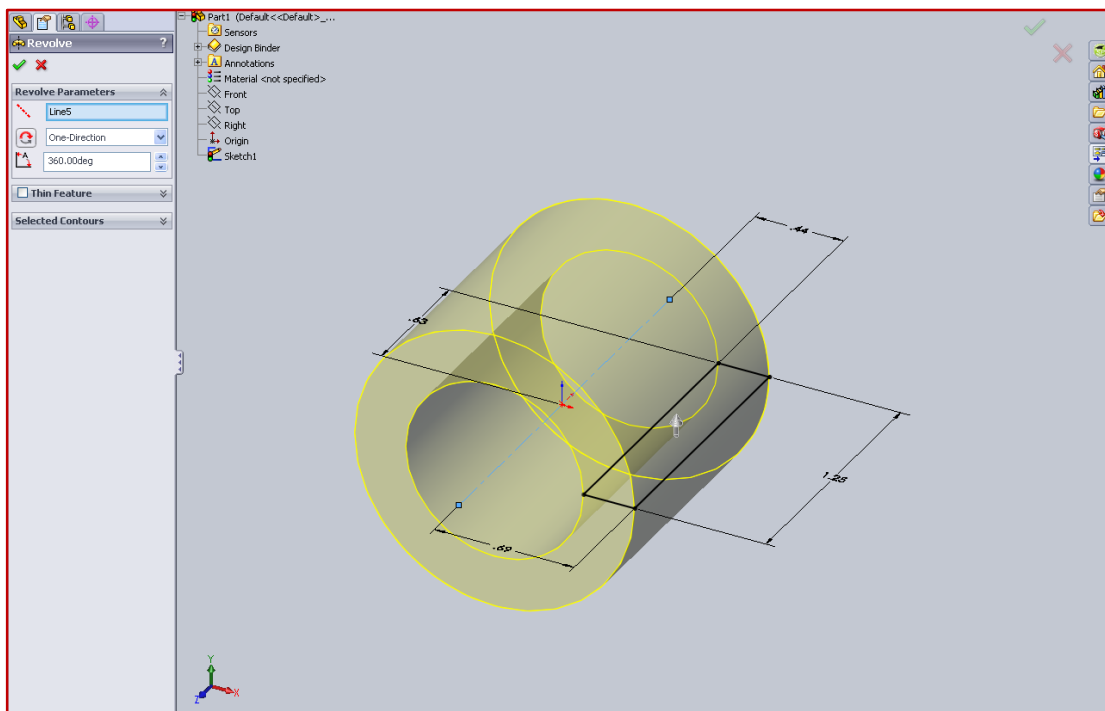

Figure 4.2 – Features → Revolved Boss/Base
- ✓ Refer to the skateboard assembly drawing, drawing SKBD100 in the Appendix and Figure 4.2 below, the cross-section of the wheel. The cross-section will revolve around the line.
- ✓ Next, we will revolve the rectangle around the centerline. See Figure 4.2.
- ✓ On the **Features** tab, Click **Features** → **Revolved Boss/Base** to get the menu in Figure 4.2. The only input request is the axis of revolution.
- ✓ Move the cursor over the centerline and SolidWorks will show a preview of the revolved solid in Figure 4.2.